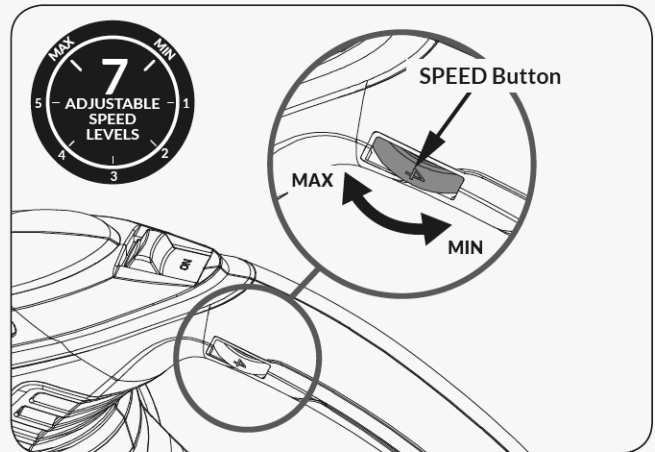

Figure 27
4. 7 adjustable speeds. Rotate the speed control knob to the right to gradually increase the blower speed. (See **Figure 27**)